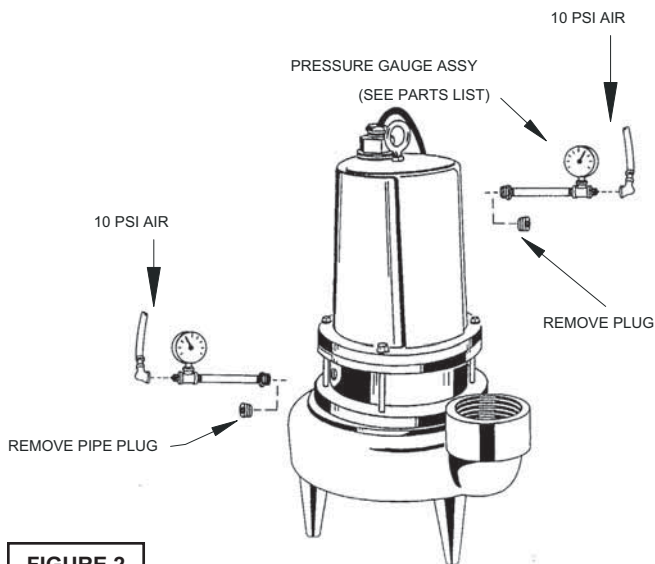

FIGURE 2
Motor Housing - Before checking the pump for leaks around the shaft seal, square rings, and cord inlet, the oil level should be full as described in section F-1.3. Remove pipe plug (19) from motor housing (5). Apply pipe sealant to pressure gauge assembly and tighten into hole (see Fig. 2). Pressurize motor housing to 10 P.S.I. Use a soap solution around the sealed areas and inspect joints for "air bubbles". If, after five minutes, the pressure is still holding constant, and no "bubbles" are observed, slowly bleed the pressure and remove the gauge assembly. Replace the pipe plug (19) using a sealant. If the pressure does not hold, then the leak must be located and repaired.